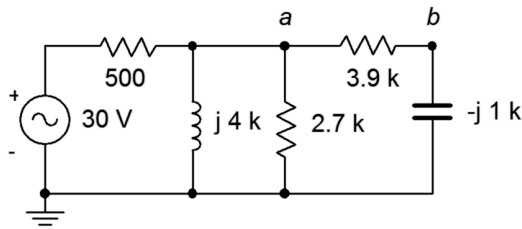

Figure 5.23
47. Use Thévenin's Theorem to find v_b in the circuit of Figure 5.23.
48. Determine the Thévenin equivalent that drives the $3.9 \text{ k}\Omega + j1 \text{ k}\Omega$ combo in the circuit of Figure 5.23. Does this combo's impedance achieve maximum load power? If not, what combo will achieve maximum power and what is the resulting power?
49. Determine the Norton equivalent that drives the $500 \text{ }\Omega$ resistor in the circuit of Figure 5.23. Determine the value of component(s) that when placed in series with the $500 \text{ }\Omega$ resistor will achieve maximum load power (i.e., for the combo as the load).
75. Using Thévenin's Theorem with the circuit of Figure 5.23, determine a new value of capacitive reactance such that it cancels the Thévenin reactance.